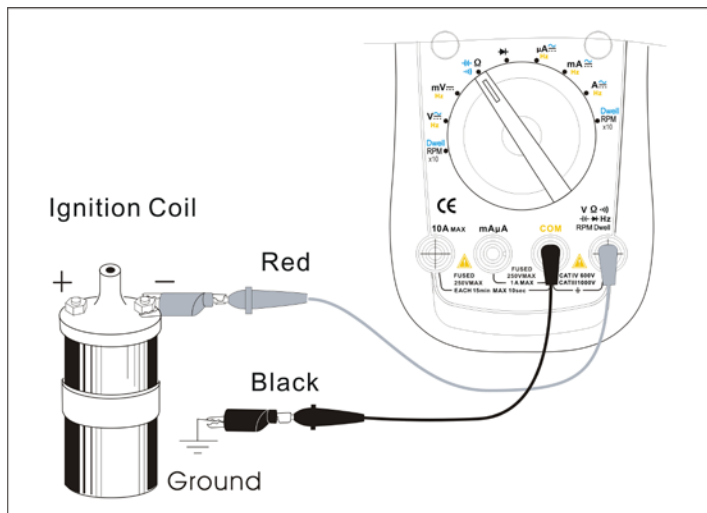

Figure 20
5. RPM Testing (see figure 20)